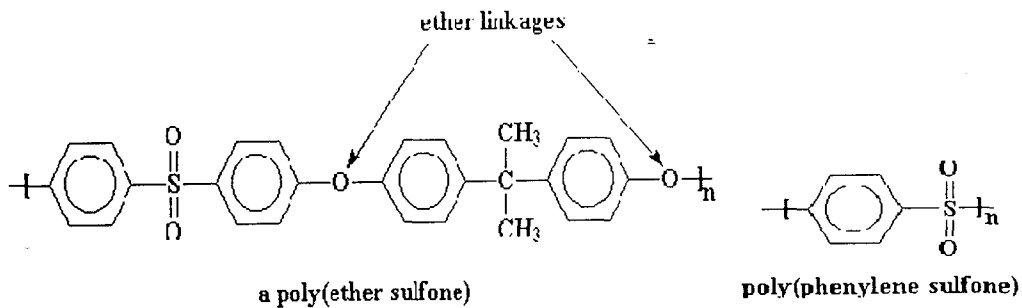

Figure 3
- [b] Figure 3 shows the structure of polyphenylene sulfone and polyethersulfone. Describe the properties of polyphenylene sulfone and how the ether linkages modify the properties of polyethersulfone.